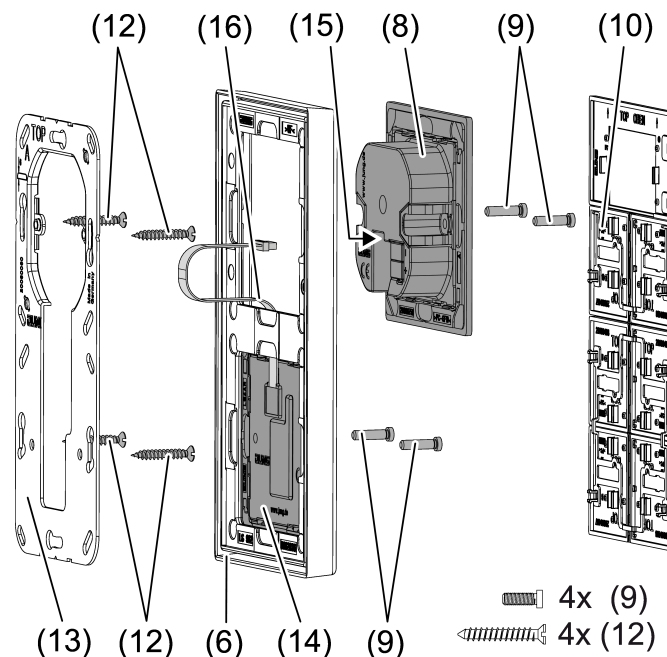

Figure 3: Mounting with push-button sensor extension module
When the push-button sensor extension module is used (see figure 3): preferably mounted vertically. Use large supporting frame (13). When mounting on only one appliance box, countersink the lower screws into the wall, e.g. with a  $\varnothing 6 \times 10$  mm hole. Use supporting frame as template.
- Mount supporting frame (5) or (13) in the correct position onto an appliance box. Note marking **TOP** = at top; marking **A** or **B** in front. Use box screws (12) (see accessories).
- Push frame (6) onto supporting frame.
- Mount the push-button sensor extension module (14) preferably below. Route connecting cable (16) between supporting frame and intermediate web.
- Push-button sensor extension module: Insert connecting cable (16) in the correct orientation into slot (15) in the controller module. Do not crimp the connecting cable (see figure 3).
- Connect controller module (8) to the KNX using KNX device connection terminal (11) and push onto the supporting frame.
- Fasten controller module (8) and push-button sensor extension module (12) to supporting frame using the plastic screws (9) (see accessories). Tighten the plastic screws only lightly.
- Before mounting the control surfaces (10), load the physical address into the device (see Commissioning).